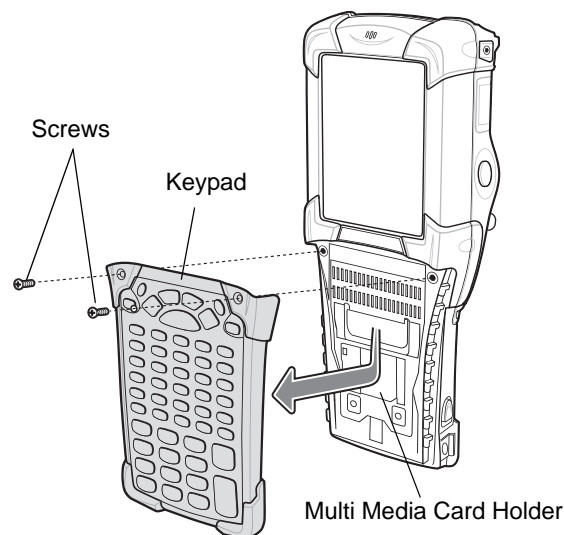

Figure 2-1 *Removing the Keypad*
The MMC provides secondary non-volatile storage. The MMC is located under the keypad (see Figure 2-1 on page 2-3).
2. Remove the two keypad screws and slide the keypad down and lift off (see Figure 2-1 on page 2-3).